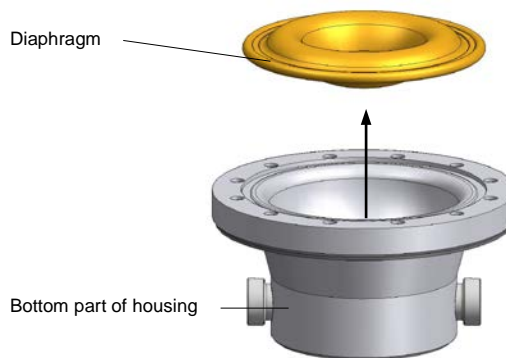

Fig. 22 Changing the diaphragm (plastic)
- Remove the diaphragm (see Fig. 22).